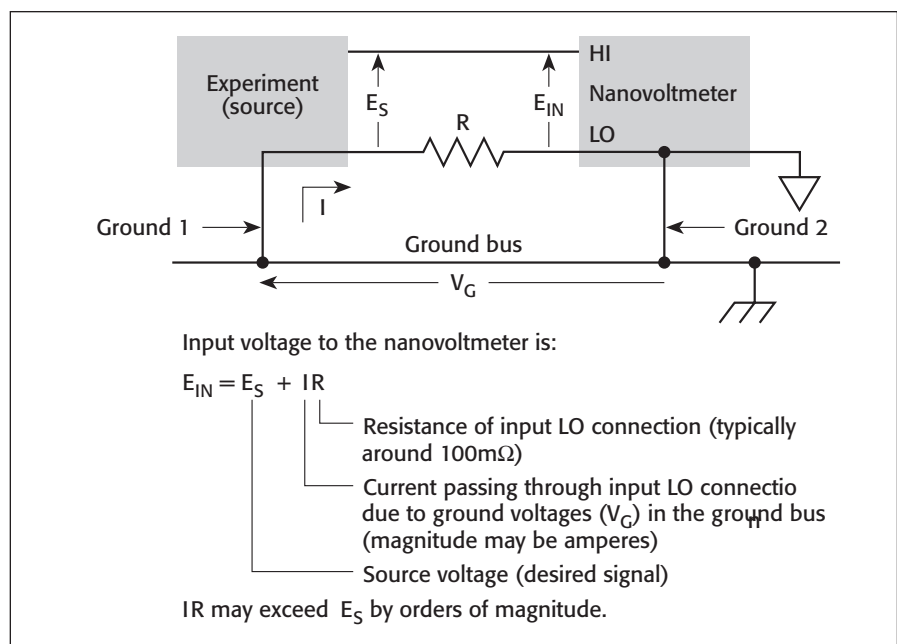

Figure 5. Multiple equipment grounds can form ground loops.
**Ground Loops.** Noise and error voltages also arise from ground loops. When the source and measuring instruments are both connected to a common ground bus, a loop is formed as shown in Figure 5. A voltage ( $V_G$ ) between the source and instrument grounds will cause a current ( $I$ ) to flow around the loop. This current will create an unwanted